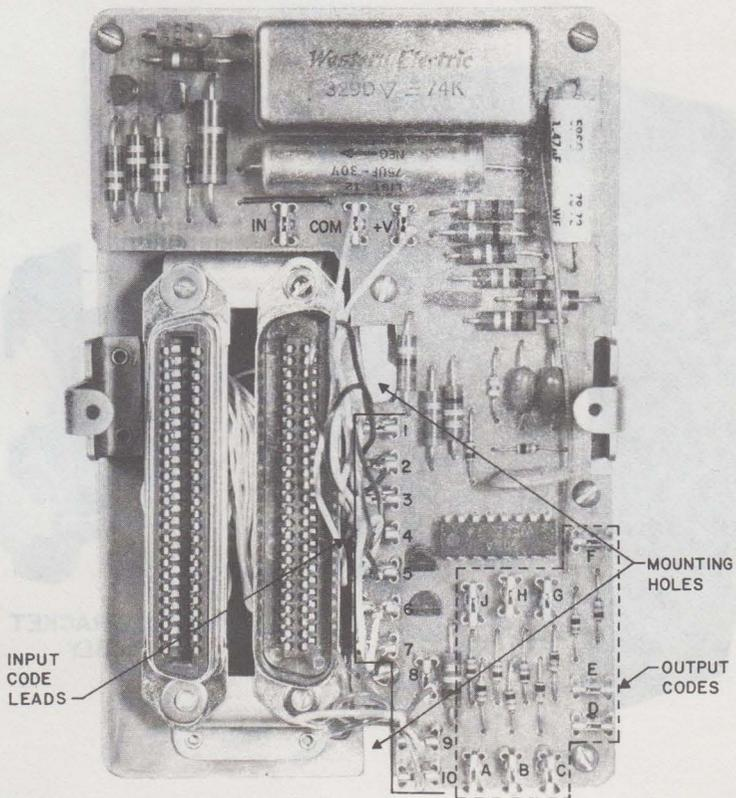

FIGURE 8. 26 A APPARATUS UNIT BASE
- (1) Remove the lead corresponding to the input code from the numbered terminal (Figures 8 and 14) where it is stored; insert the lead in the IN terminal (Figures 8 and 14).
- (2) Remove the leads corresponding to the output codes and insert each lead in a separate terminal lettered A through J. (Figures 8 and 14).